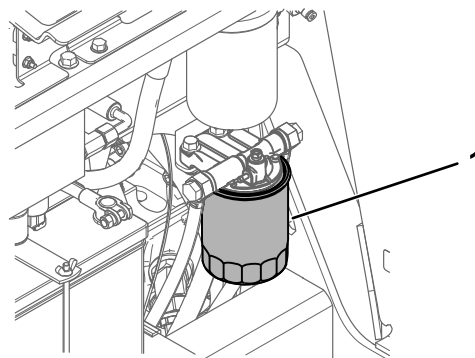

Figure 53
5. Place a clean container under the fuel filter canister (Figure 53).